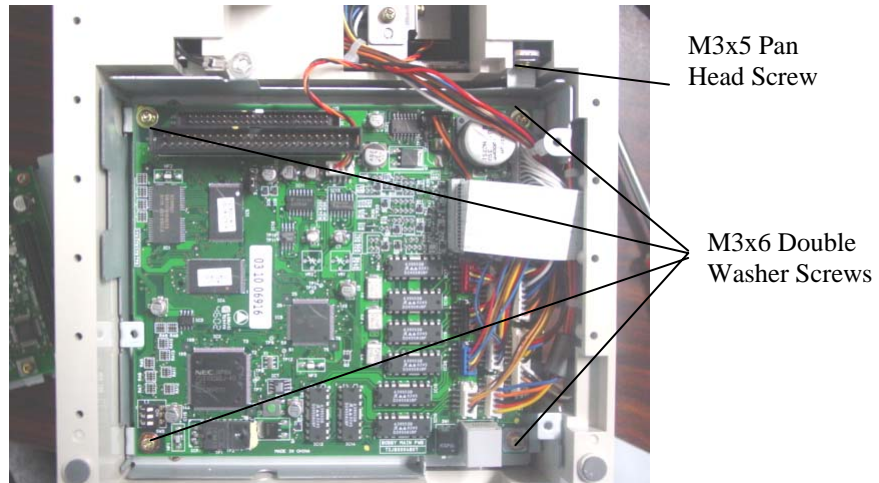

Figure 5 – Removal of screws
- Remove four M3 x 6 double washer screws that fasten the Main PC board to the Main PC board plate and one M3x5 pan head screw. (Figure 5)